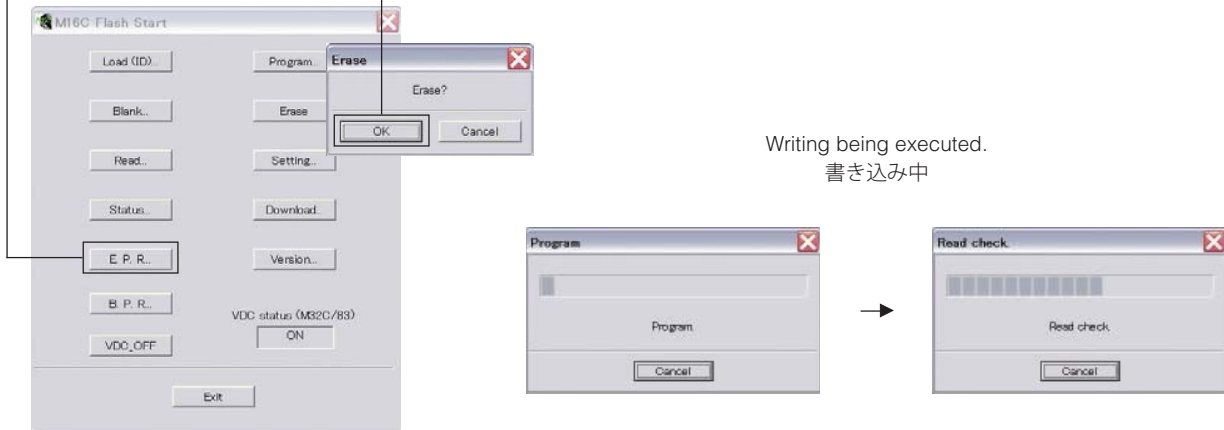

Fig. 6
8. Click [E.P.R.], then the "Erase" screen appears. (Fig. 6)
9. Click [OK] to start writing. (Fig. 6)
す。(Fig.6)
(Fig.6)